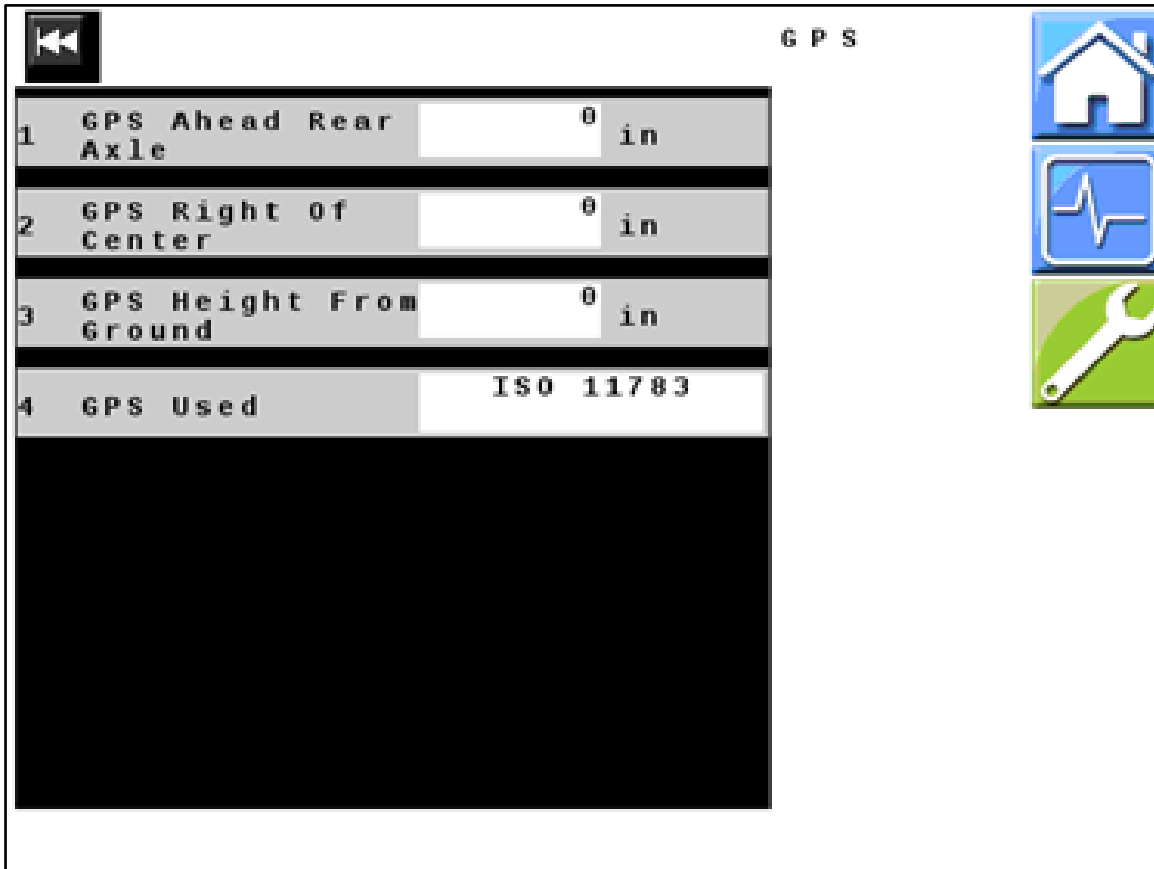

Figure 23 — GPS
41. *Figure 23*: Select the type of GPS from the list of available options. Not all of the options listed here may show on your system. Only the types available for your system will show on your list.